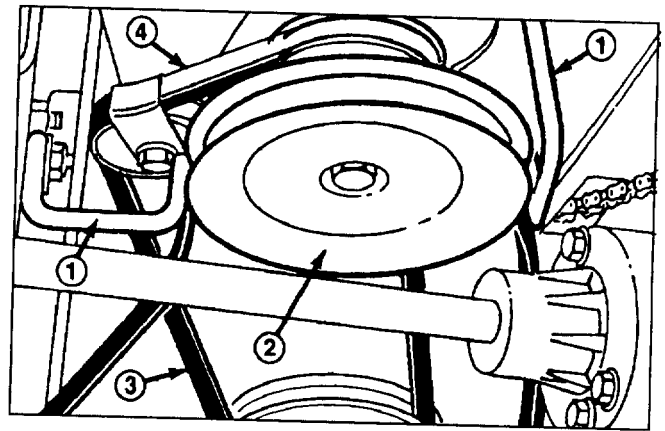

Figure 26
2. Set height-of-cut control to lowest setting and loosen belt guides near engine pulley. Remove belt from engine pulley (Fig. 26).
3. Loosen and remove (1) mounting screw securing each belt guide to cutting unit. Pivot belt guides away from spindle pulley and remove belt. Visually inspect belt for wear or damage (Fig. 26).
4. Replace belt guides for transmission pulley and retighten belt guides on engine pulley. Install belt retainer on idler pulley positioned toward rear as shown in Figure 26.